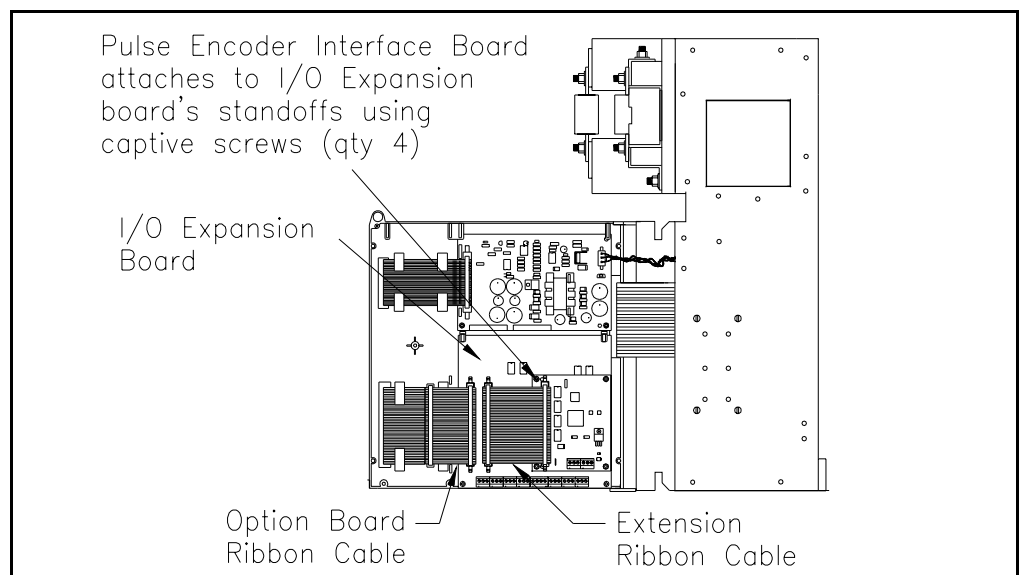

Figure 2.4 – Mounting the Pulse Encoder Interface Board on an I/O Expansion Board
- Step 10. Connect the extension ribbon cable to the Pulse Encoder Interface board and to the I/O Expansion board as shown in figure 2.4.